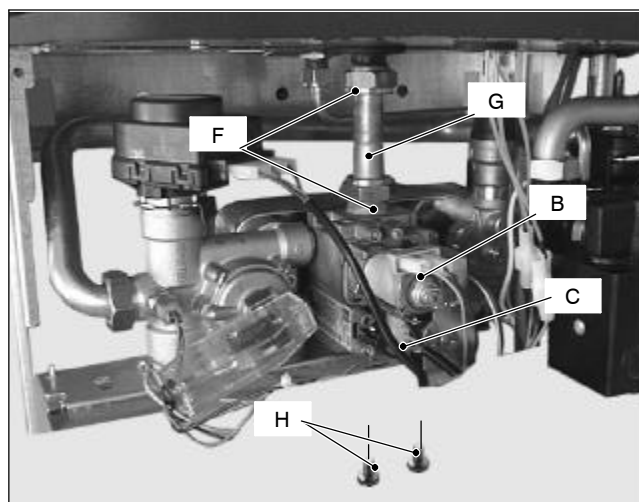

Fig. 47
- 2 Disconnect the connectors *B* (Fig. 47) from the modulating operator and measure the electrical resistance of the coil. Its electrical resistance value must be approx. 80 Ω*.
- 2 Disconnect the electrical connector *C* (Fig. 47).
- 2 Disconnect the connectors *B* and *C* (Fig. 47).